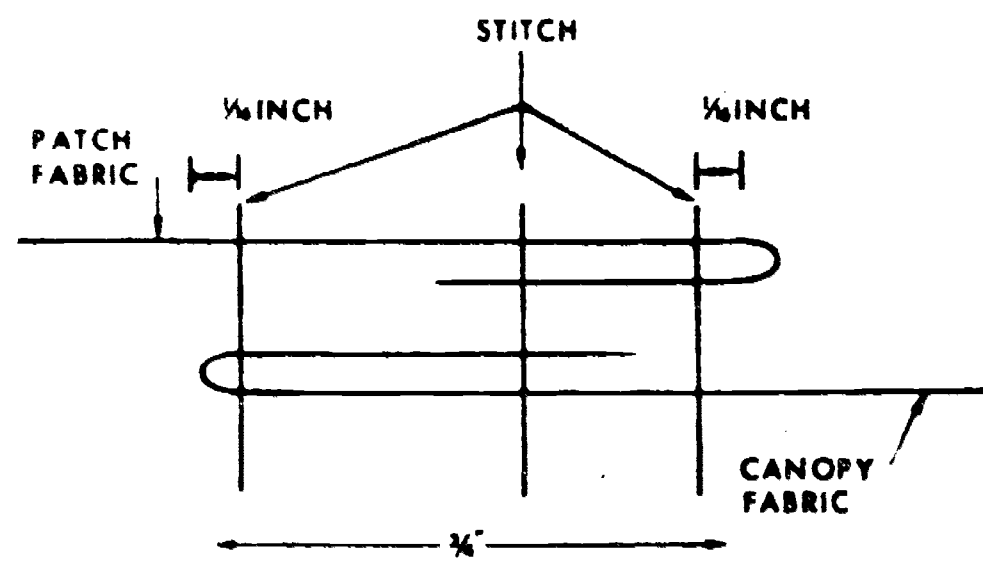

Figure 9. Check Step Folding Canopy and Patch Materials.
2. The patch material and canopy material will be folded and sewn as indicated in Figure 9.